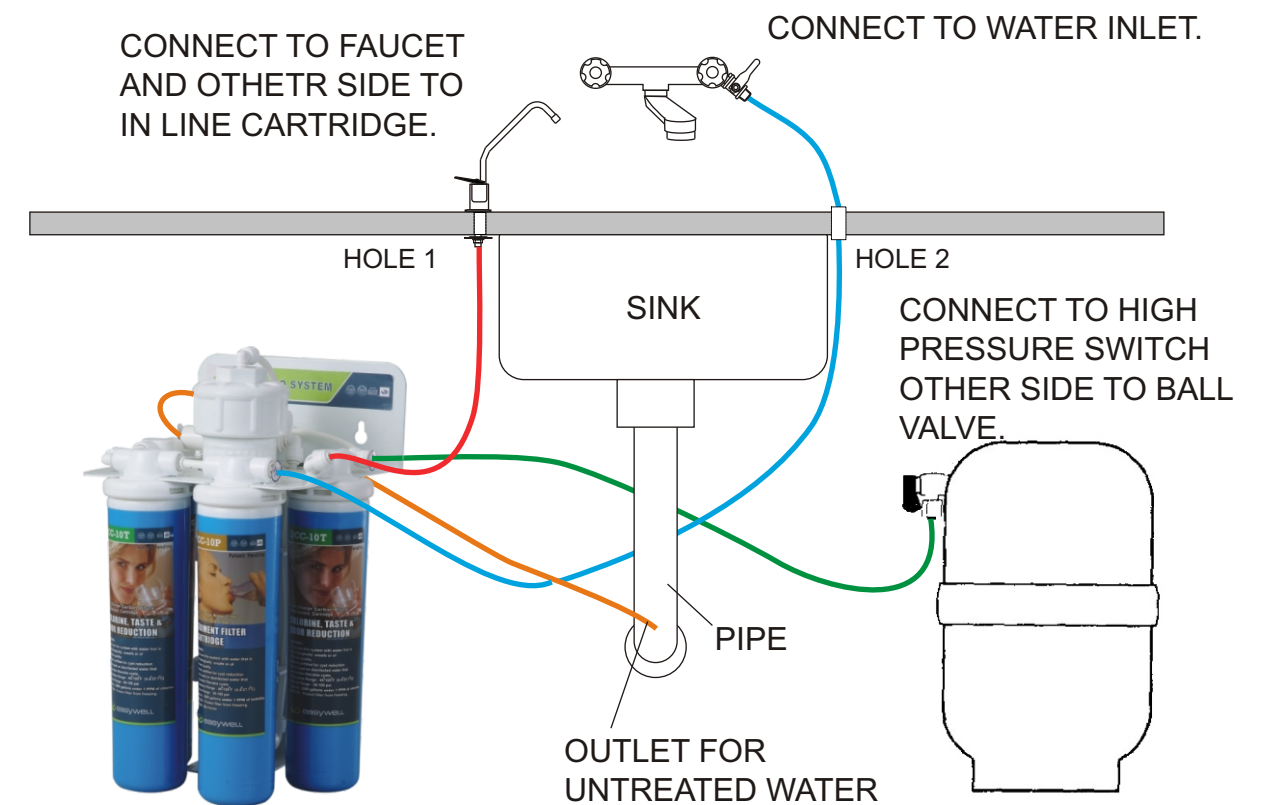

FIGURE 17. CONNECTION DRAWING
- 2.4.2 Cutting a piece of 1.8~2PE pipe and connect to water inlet adaptor. Then, go through hole2 and connect to the water inlet of machine (As shown in Figure 17-No. 1). Please make sure the pipe is in the bottom.
- 2.4.3 Cutting a piece of 60cm~80cm PE pipe and connect to the untreated water outlet of machine (As shown in Figure 17-No.2). Another side connect to untreated water.